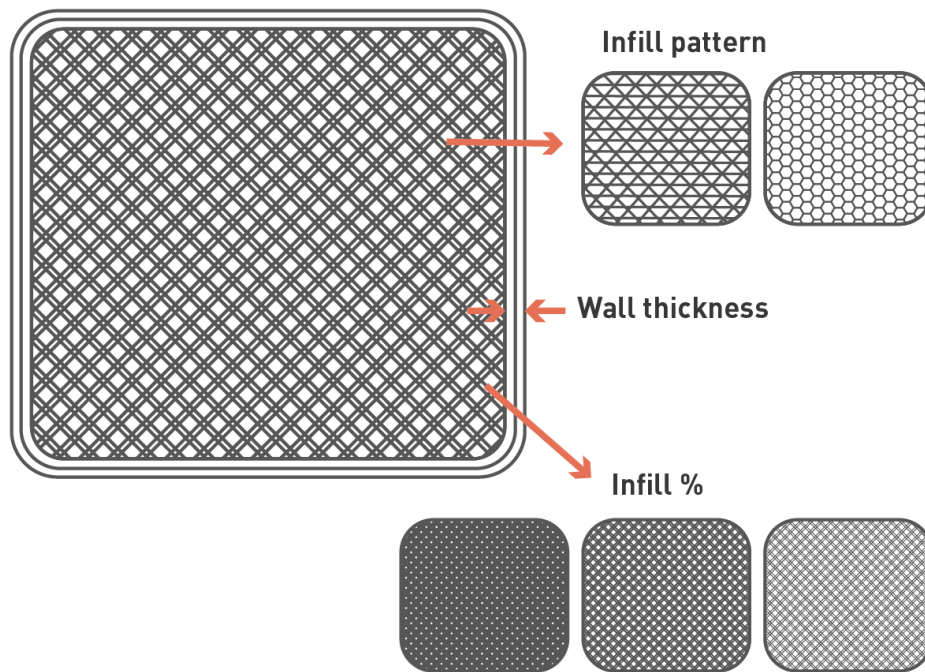

Figure 27 - Infill parameters.
- C. Shell thickness:** As explained during the Redesign phase, 3D printed parts consist of a shell and an infill density and pattern. The shell is the outer walls of the 3D printed part, as shown in Figure 27. You should select a shell thickness that fits with the strength and stiffness requirements that you identified during the Analysis phase and Redesign phase. Increasing your wall thickness is useful when you need a part to be stronger, this has a better effect than increasing infill density. It is recommended to define the wall thickness with multiples of the layer height you have selected to avoid gaps.